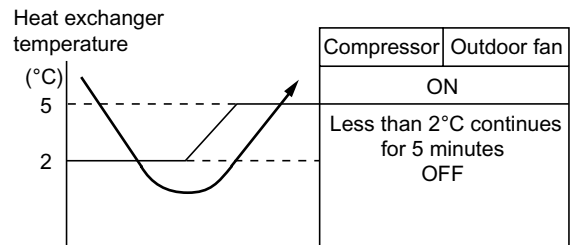

**Fig. 7-3-6**
- (1) One of 2 operations (Cooling or Fan only) is selected according to difference between the preset temperature and the room temperature at which the automatic operation has started, as shown in Fig. 7-3-6. The Fan only operation continues until the room temperature reaches a level at which another mode is selected.
- (2) Temporary Auto
When the [RESET] button on the indoor unit is pushed, the preset temperature is fixed at 24 °C and the indoor unit is controlled as shown in Fig. 7-3-6.